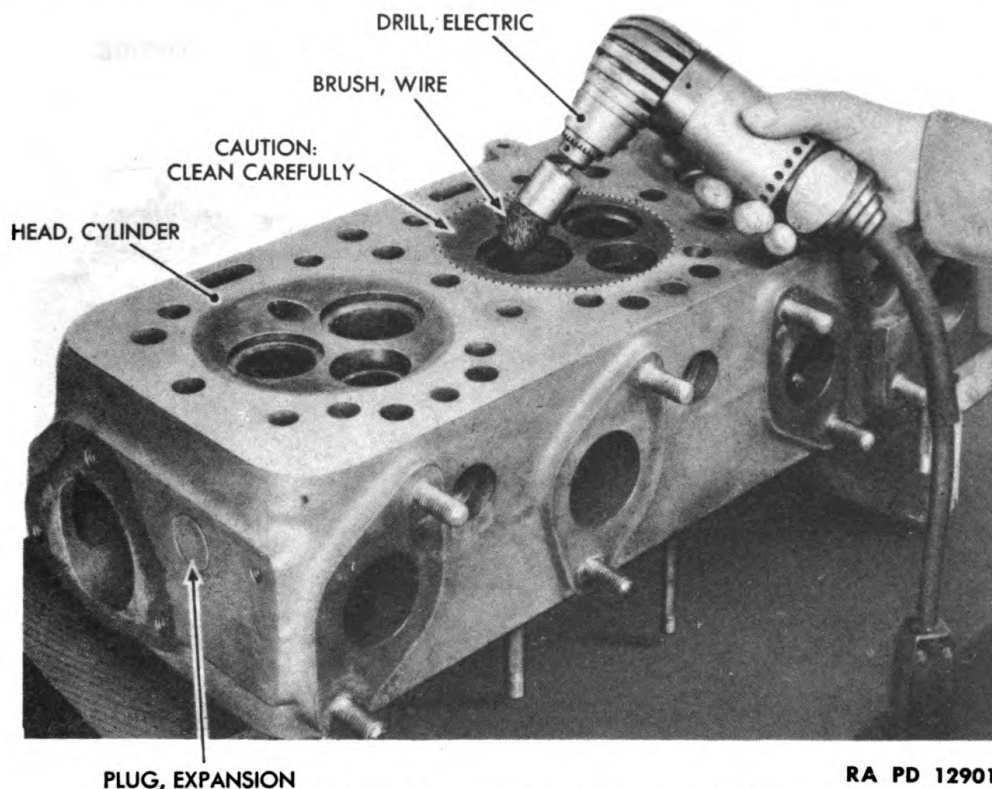

Figure 75—Cleaning Carbon from Cylinder Head
(6) **DO NOT REMOVE EXPANSION PLUGS** (fig. 75).